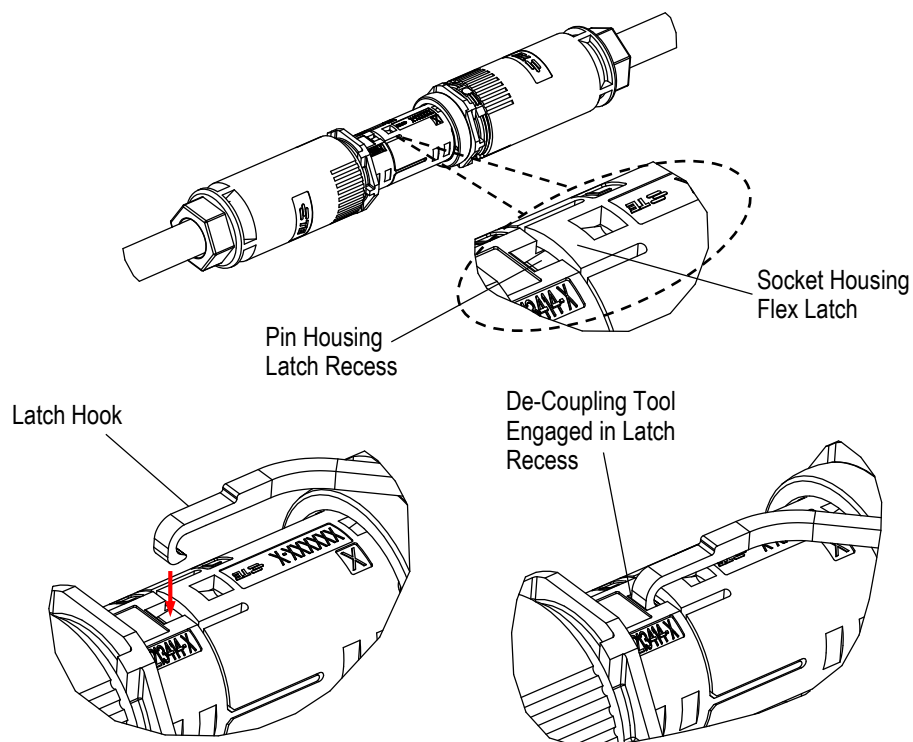

Figure 31
2. Latch hooks at end of de-coupling tool are inserted into latch recesses in pin housing. The recesses are located adjacent to the flex latches. The long arms of the de-coupling tool are flexible and will deflect to allow the latch hooks to install into the latch recesses in the pin housing (Figure 31).